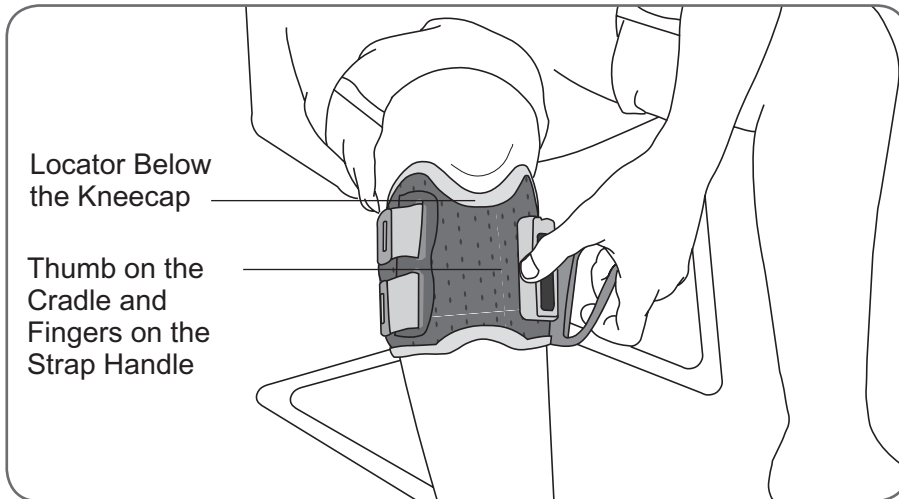

Figure 7-3: Fastening the L300 FS Cuff strap.
8. With your thumb on the cradle, fasten the L300 FS Cuff strap handle around the cradle. See Figure 7-3.